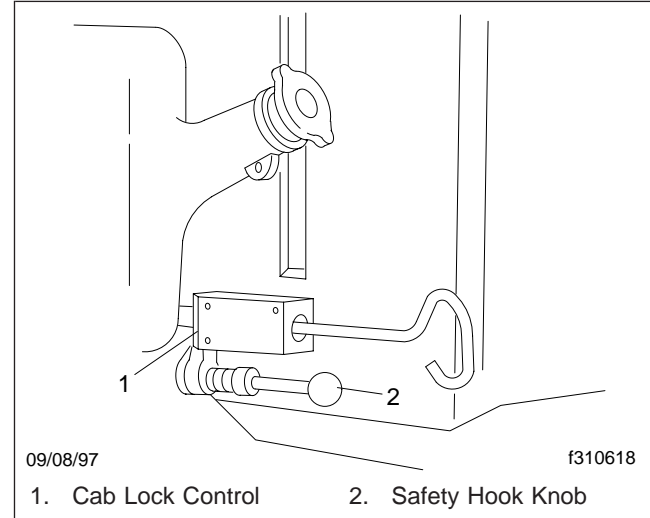

Fig. 2.15, Back of Cab
3. Insert the cab lock handle in the lock control located on the passenger's side of the rear cab panel (**Fig. 2.15**). Push the safety hook knob inward, then rotate the handle counterclockwise and pull the handle outward. The handle will still be engaged.